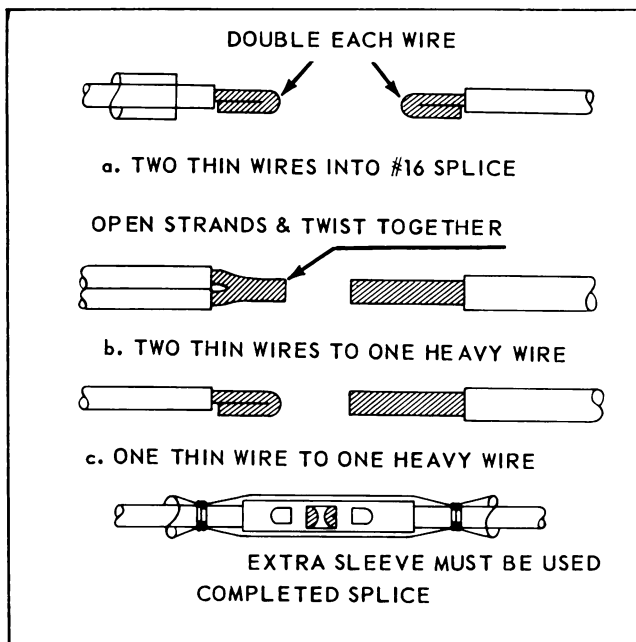

Figure 5-14. Special Splices
4. AMP tools 48430, 48431 and 59118, each has a splice locator (see Figure 5-14). Insert splice in tool so that locator fits into gap between splice barrels.